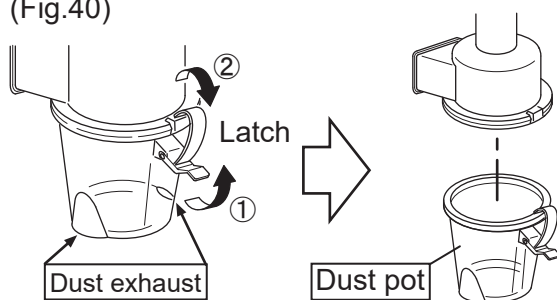

Fig.40
- i) Take off the latch of dust pot and remove it. (Fig.40)